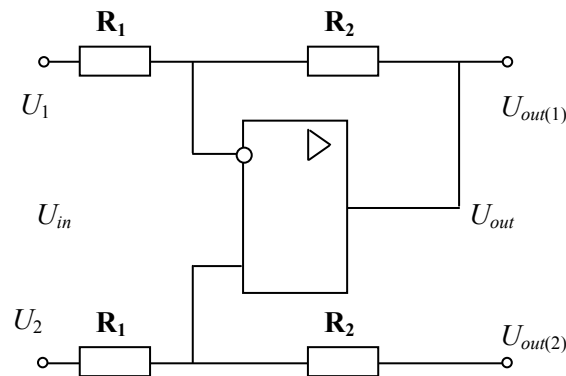

Fig. 2.22
**Feedback differential amplifier.** Fig. 2.22 shows an op amp connected as a diff amp with the balanced supply. It amplifies  $U_{in}$  that is the difference between  $U_1$  and  $U_2$ . The output voltage is given by